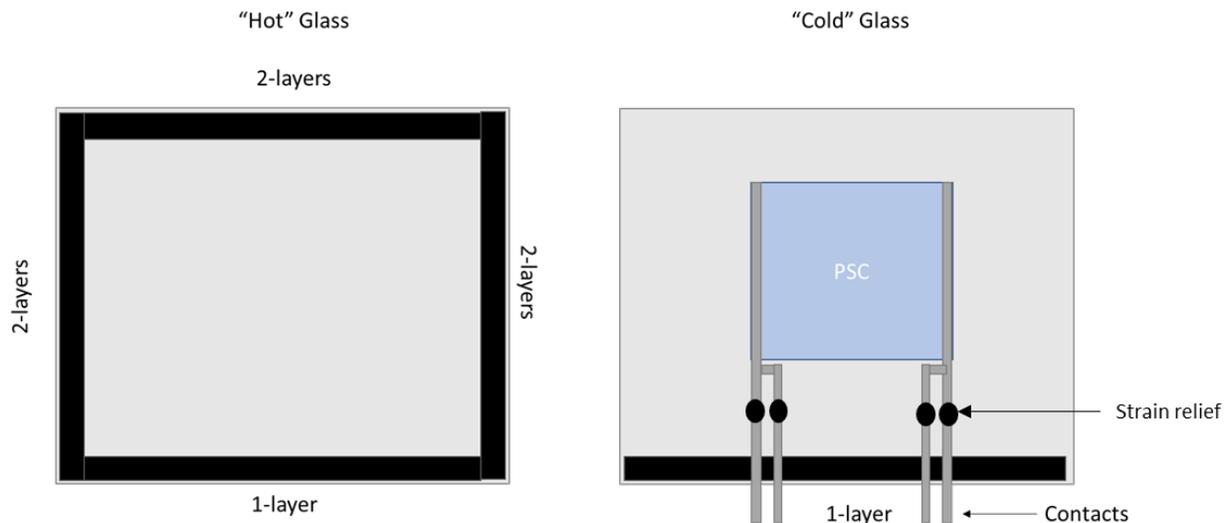

Figure 2: Top-down view of PIB lay-up. Black bars represent PIB strips.
- Some strain relief is also recommended, this can be achieved by either ultrasonic soldering or using a small piece of PIB to adhere the ribbons to the glass at the mid-point. (See Figure 2)
- Place 1 layer of PIB on one side of the “cold” glass. This will serve as the sandwich where ribbon wires are fed through. (See Figure 2).